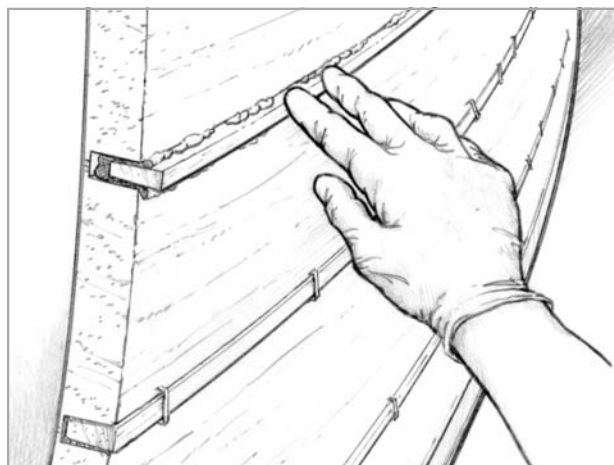

Figure 5-3 Push the wet-out spline into the seam.
3. Apply a bead of epoxy/403 or 406 (mayonnaise consistency) in the seam. Use a syringe or an 810 Caulking Tube to fill the gap with enough epoxy so that a small amount will squeeze out when the splines are pushed in (Figure 5-3).